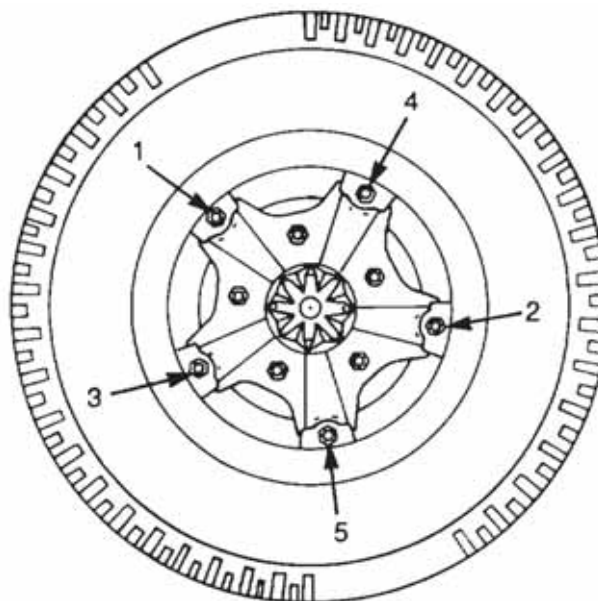

Figure 21 Wheel Nut – Tightening Sequence
- d. Tighten the nuts to 237 – 271 N.m (175 – 200 lbf.ft) in the sequence shown in Figure 21.